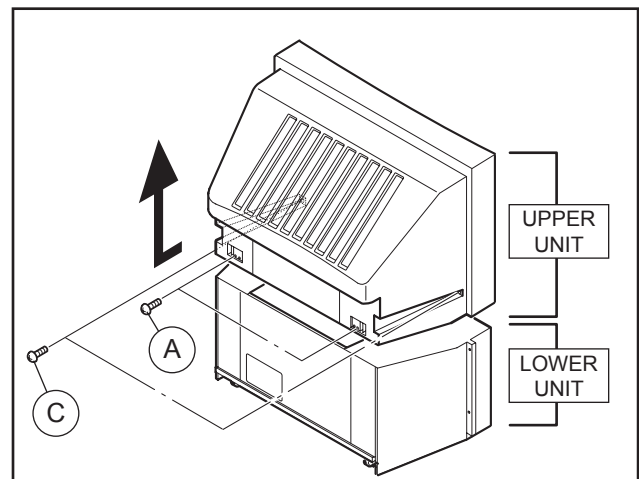

Fig.3
- (6) Remove 1 screw [C] on the left edge of the rear cover, and 1 screw [C] on the right edge of the rear cover. [Fig.3]
- (7) Remove 1 screw [A] on the left side of the rear cover, and remove 1 screw [A] on the right side of the rear cover. [Fig.3]
- (8) Move the rear cover approx. 3cm in rear direction. Then, remove the upper unit from the lower unit by lifting the upper unit slowly. [Fig.3]